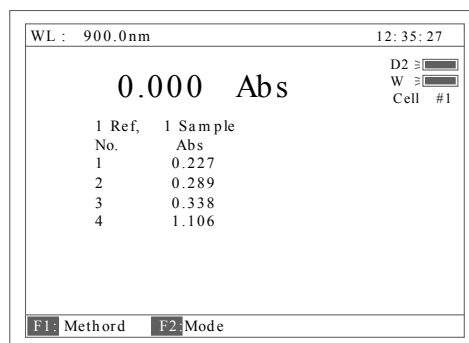

Fig 104
4. Press **[START]**. Automatically the reference is taken in cell NO.1, the 4 samples are taken in cell NO.2-NO.5. The results are displayed as Fig 104.